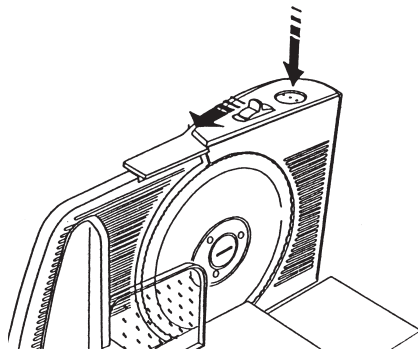

Figure 2
7. To start Blade, first slide Safety Switch from position '0' to '1' (Figure 2). While holding Safety Switch, press Pulse Switch button (using the same hand).